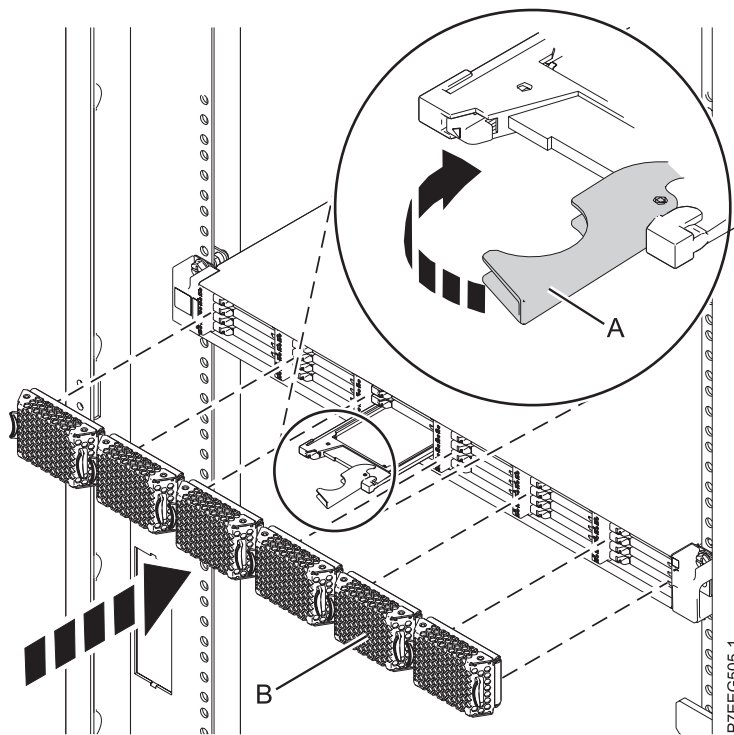

Figure 4. Installing a solid-state drive in the EDR1 PCIe storage enclosure
1. With the handle in the unlocked position, align the solid-state drive with the guide rails in the enclosure. See Figure 4 on page 9.